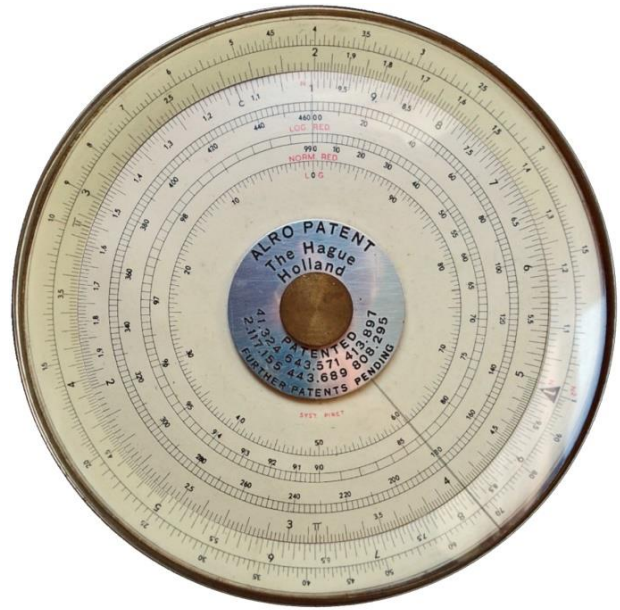

Fig. 9: Online simulation of Nestor's example calculation [10]
The needed *draw size* values listed in *Table 1* can easily be gleaned from the completed reduction calculation. Keeping the slide rule set as in *Fig. 9*, merely move the cursor hairline respectively to the values 45, 90 and 135% on the **LOG RED** scale. At each increasing interval of 45% the achieved *draw size* can be read off where the hairline crosses the **CI (N)** scale. This worked example admirably shows the cleverness of the special **LOG RED** scale. In his article Nestor points out that the second **NORM RED** specialist scale is only there as a transitional aid to get wire-drawing engineers accustomed to working with logarithmic cross-sectional area reduction percentages. Nestor is also somewhat dismissive of the **LI (LOG)** reciprocal scale. He states it is not needed for any reduction related calculations but was included in the layout to make other general calculations possible. Finally, as is often the case with ALRO metal-cased circular slide rules, a paper data sheet was pasted inside the lid. For the model PIRET the data sheet is a multi-column table showing for *Wickman Wimet Die* sizes 4/10 to 36 the equivalent wire gauge in circular Mils and mm according to six international standards.